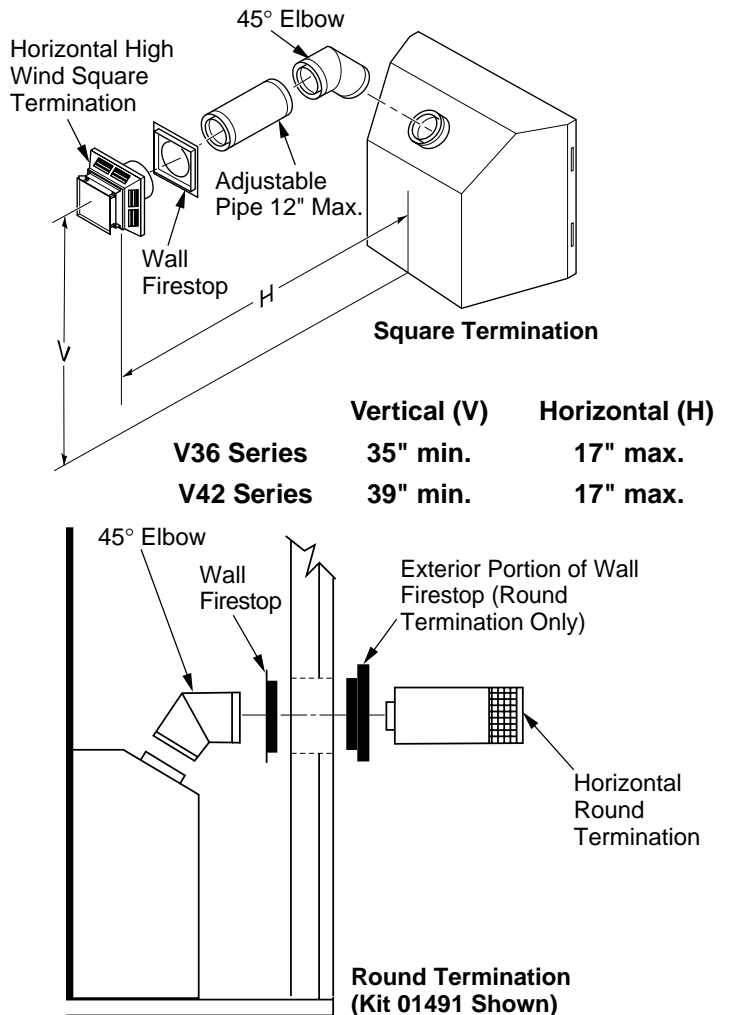

Figure 14 - Horizontal Termination Configuration for Square or Round Termination
IMPORTANT: Horizontal square terminations require only inner portion of wall firestop. Horizontal installations using round termination require exterior portion of wall firestop available only in vent kit 01491 (see Figure 14, page 10).
1. Set the fireplace in its desired location and determine the route your horizontal venting will take. Do not secure the fireplace until all venting has been installed. Some installations require sliding the fireplace in and out of position to make final venting connections. Figures 14 through 18 on pages 10 through 12 show different configurations for venting with horizontal termination that will help you decide which application best suits your installation. Check to see if wall studs or roof rafters are in the path of your desired venting route. If they are, you may want to adjust the location of the fireplace.
Figures 14 through 18 show different configurations and alternatives for venting with horizontal termination. Each figure includes a chart with critical minimum and maximum dimensions which **MUST** be met. **IMPORTANT:** Remember that a horizontal run of venting must have a 1/4" rise for every 12" of run toward the termination.